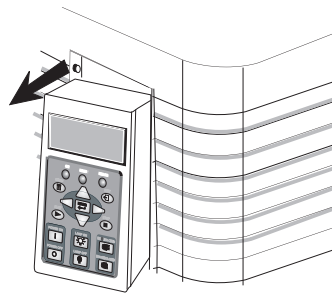

Figure 2-3 Remove CDP
1. Grasp the CDP and slightly push it to one side. This creates a gap sufficient enough to release the CDP from the top mounting pin on that side. Then release the other side and pull forward to remove. See **Figure 2-3**.